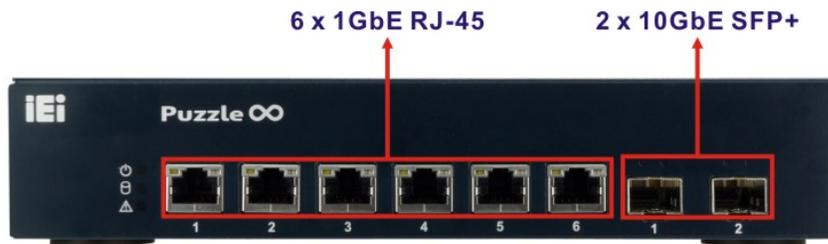

Figure 3-7: Lock SIM Card Slot Cover
Step 5: Close the slot cover and lock it by sliding it in the direction as shown by the arrow in **Figure 3-7**.